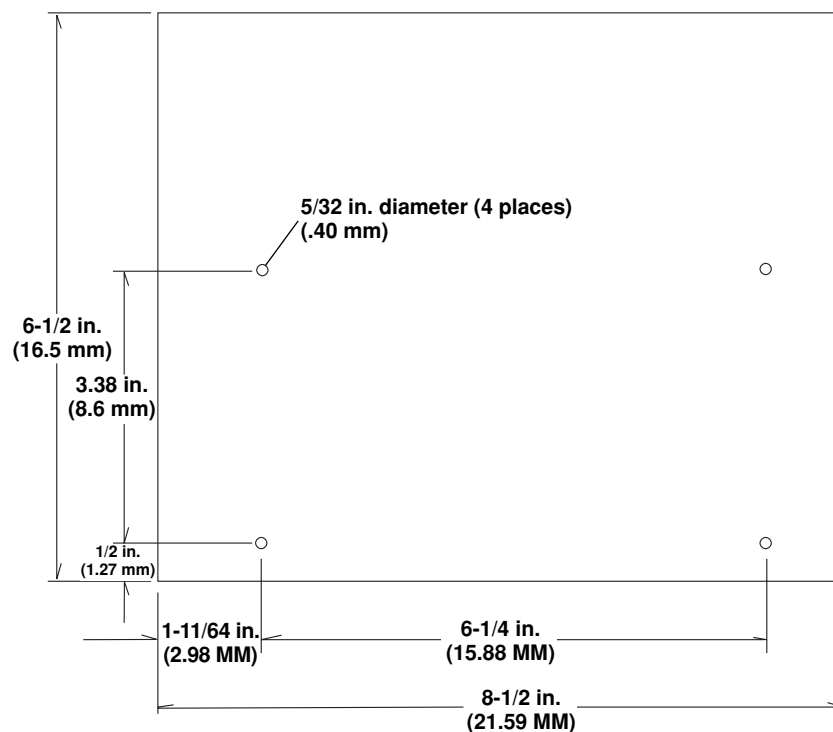

Figure e-1 RCC Mounting Dimensions
1. Mount the RCC for easy access. For fixed mounting of the RCC, refer to Figure e-1.